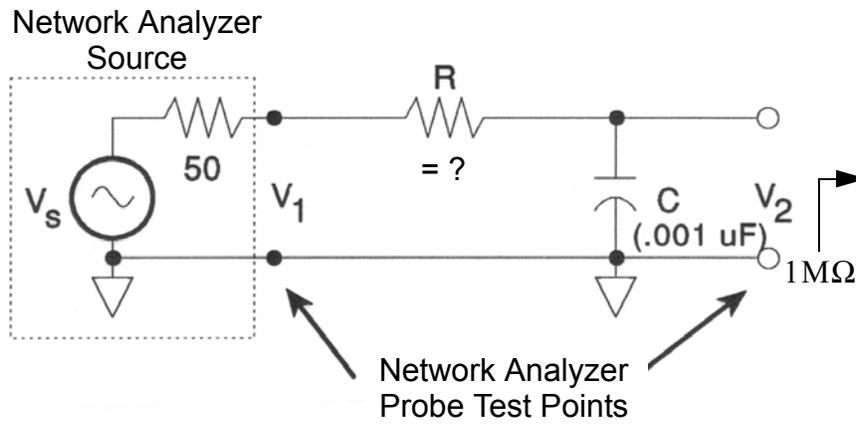

Figure 3: RC Lowpass Filter
You will investigate two linear circuits using the vector network analyzer configured as in Figure 2b. The first is the familiar RC lowpass filter as shown in Figure 3. This circuit has no doubt received considerable attention in past lecture courses as well as electronic circuit laboratories. It is hoped that testing this circuit while you are becoming familiar with the network analyzer, will make the interpretation of the experimental measurements easier. The value for R is undetermined since you will have fewer choices for C , you often back into the value for R by choosing C first then find R to obtain the desired 3 dB cutoff frequency.
- (a) Referring to the lowpass filter of Figure 3 using $C = 1$ nF or another suitable value, determine R such that the cutoff frequency is near 10 kHz.